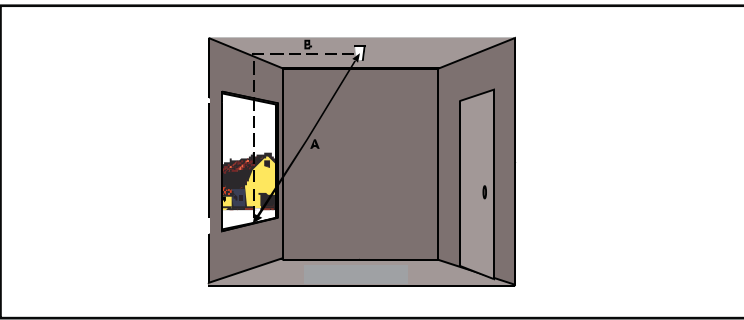

Figure 3.5: Ceiling Mounting Without the Magnetic Contact
- Make sure the detector is no farther than 10 ft (3 m) from any corner of the glass (line A in figure 3.5).
- The detector should be within ±30° of the center of the glass to be protected (line B in figure 3.5).